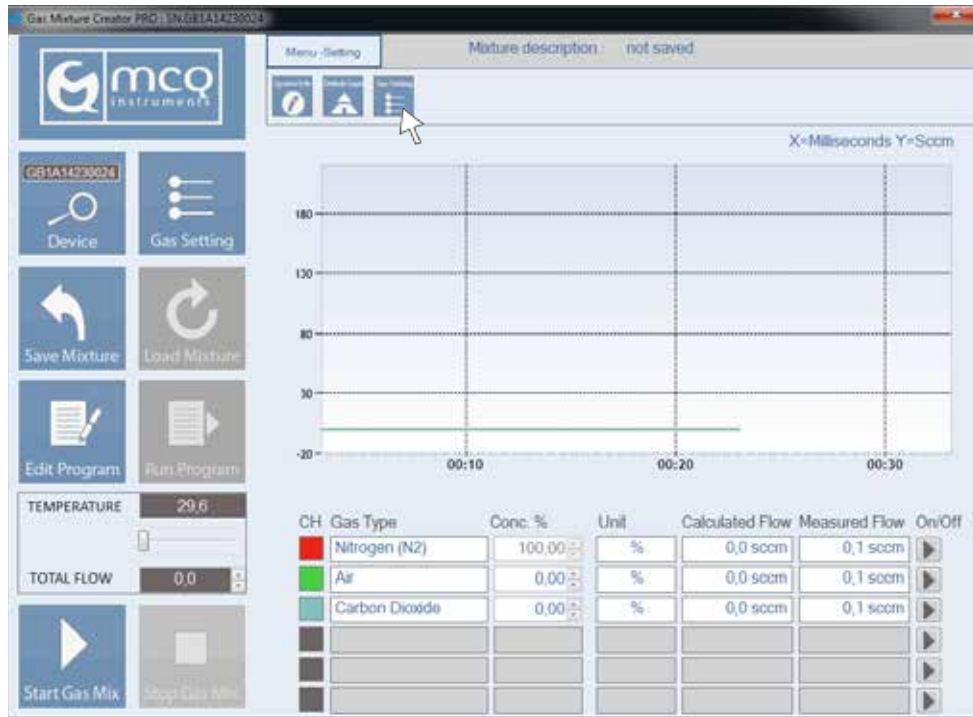

Fig. 19
5. You can also open the panel "**Gas Settings**" clicking on "**Menu Setting**" in the upper side of the software. (Fig. 19)